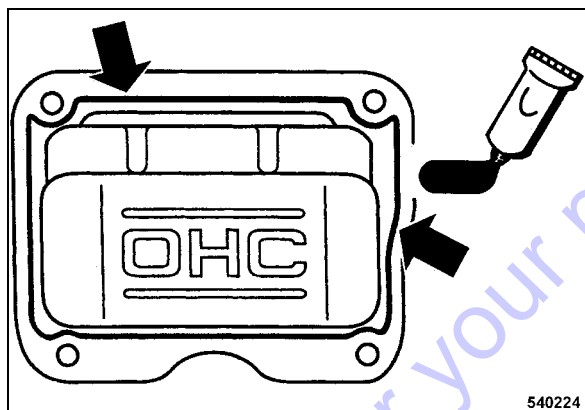

Fig. 49
- Apply a bead of liquid gasket (Three Bond 1207B or similar) with a diameter of approx. 1.5 to 2 mm (0.06 to 0.08 in) to the inside of the cylinder head cover (Fig. 49).